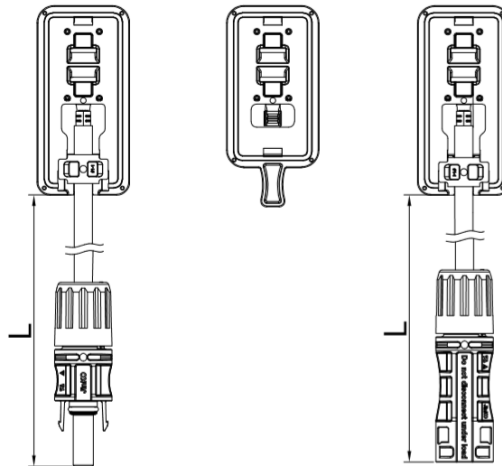

Figure 10 Split junction box diagram
- Figure 10 is for illustration only; refer to the module specifications for the specific dimensions of each junction box.